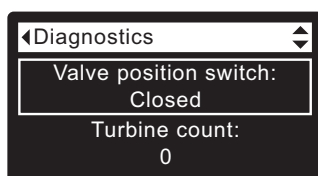

FIG. 91
2. Press the DOWN (▼) button to scroll through the list until **Valve position switch** is displayed (See Figure 91).